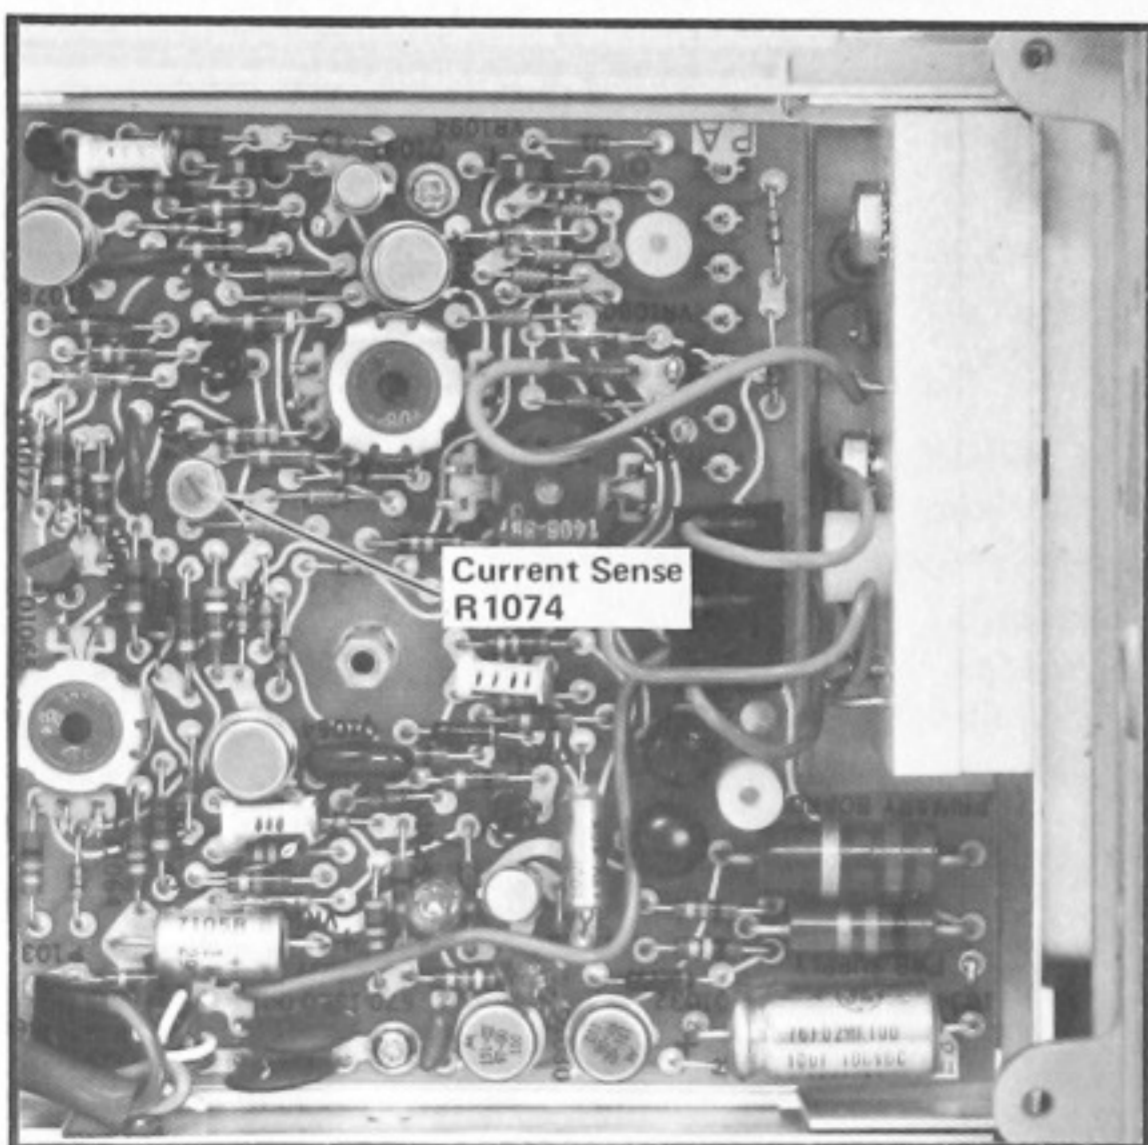

Fig. 5-3. Location of Current Sense adjustment R1074.
g. ADJUST—Current Sense adjustment R1074 (see Fig. 5-3) for peak to peak display amplitude of 4.4 divisions, ± 0.2 division (2.2 amperes, ± 0.1 ampere).
c. ADJUST—Current Sense adjustment R1074 (see Fig. 5-3) for 40 microseconds, \pm one microsecond time period between current peaks.